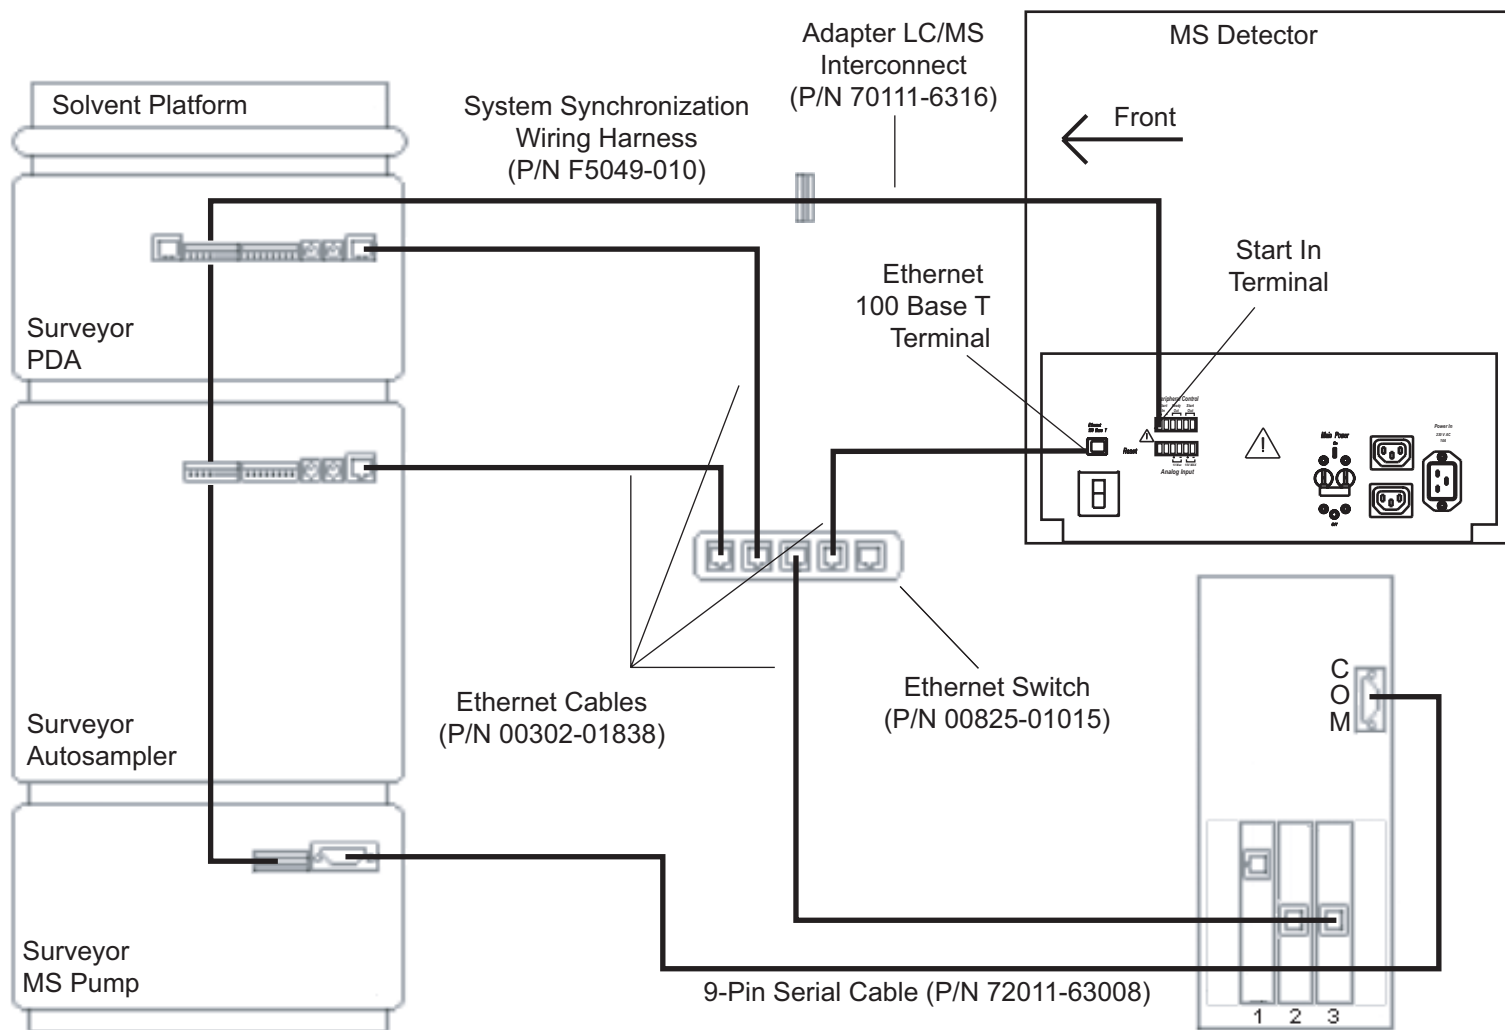
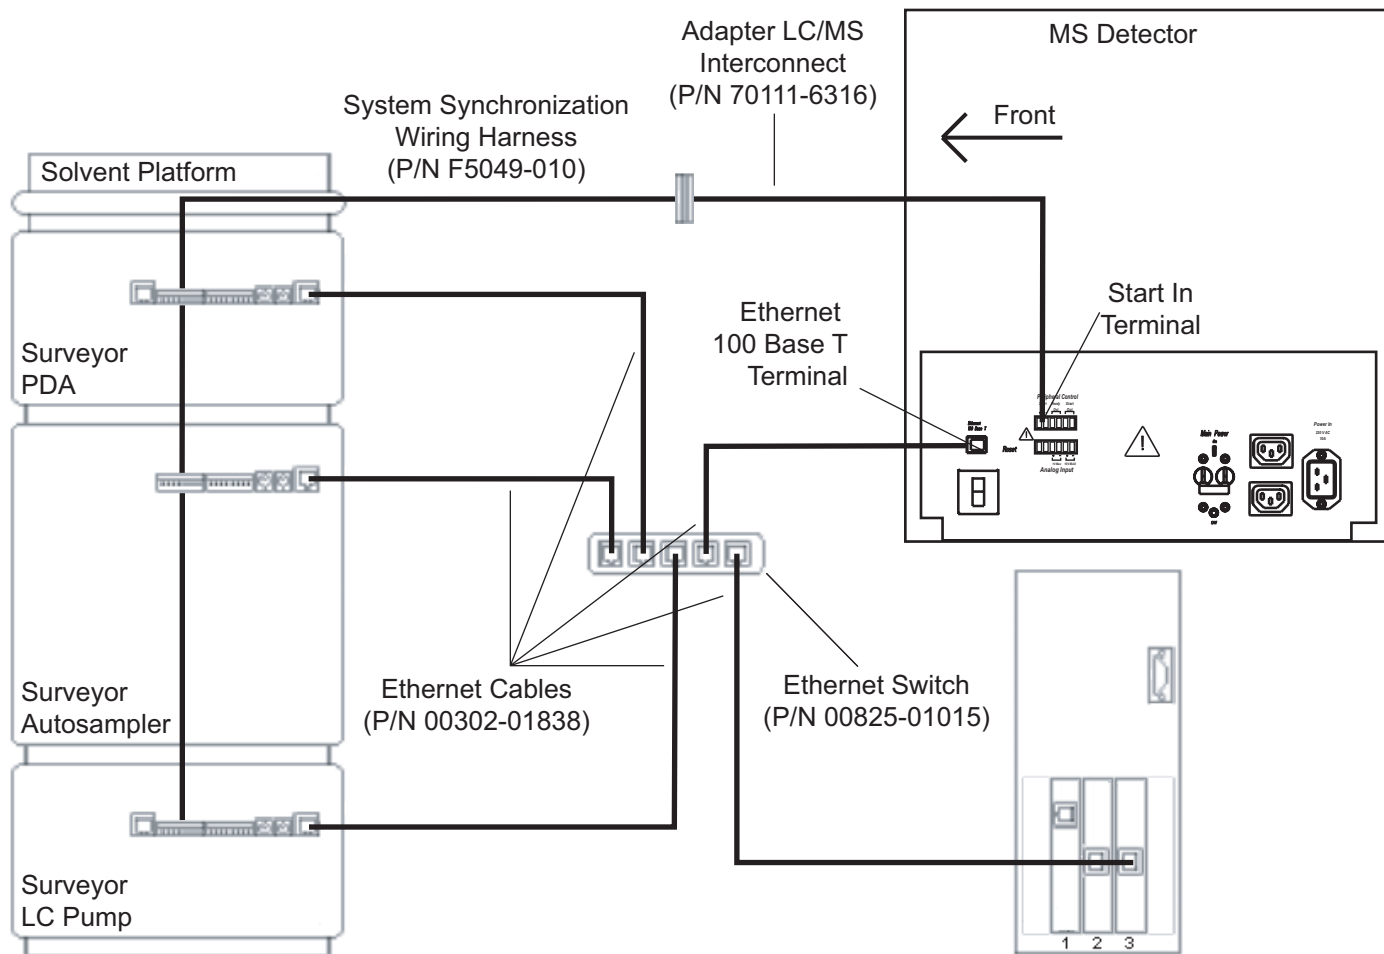

Figure 4-2. Cable diagram for the Surveyor LC system with an MS Pump, LTQ MS Detector, and data system computer
Figure 4-3. Cable diagram for the Surveyor LC system with an LC Pump, LTQ MS Detector, and data system computer
2. Interconnect the Surveyor modules with the System Synchronization Wiring Harness (P/N F5049-010). The connectors on the System Synchronization Wiring Harness are labeled appropriately. See Figure 4-2 or Figure 4-3.
- a. If you are using the Surveyor MS Pump, connect the 9-pin serial cable (P/N 72011-63008) from the pump RS-232 connector to the computer COM1 serial communication port (or another available port). See Figure 4-2.
- b. If you are using the Surveyor LC Pump, connect an Ethernet cable (P/N F5048-020) from the Surveyor LC Pump ENET connector to the Ethernet switch (P/N 00825-01015). See Figure 4-3.
7. Connect a Category 5 network (Ethernet) cable (P/N 00302-01838) from the Surveyor PDA ENET connector to one of the standard ports on the Ethernet switch (P/N 00825-01015). See Figure 4-2 or Figure 4-3 for a wiring diagram.
**Table 4-2. Data system computer configured with three (3) Ethernet cards**